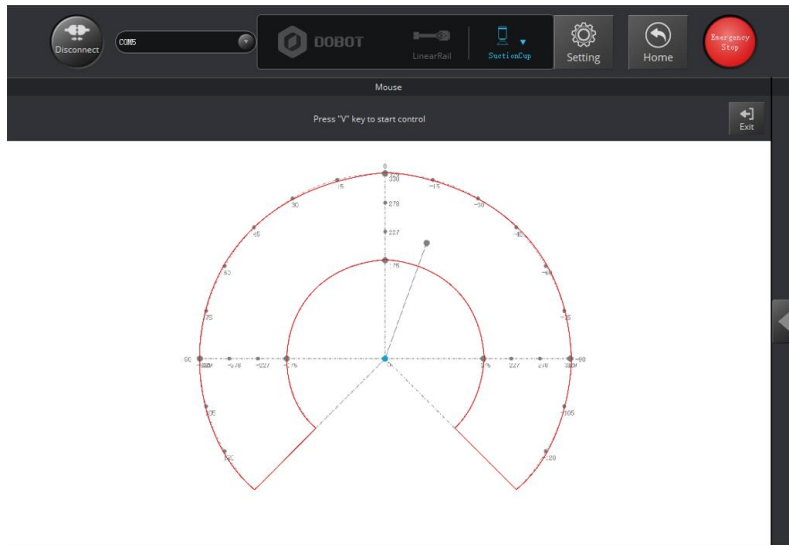

Figure 5.117 Move the robotic arm in the red annular area
- Step 2** Press **V** to enable the mouse control of the Dobot Magician. Press and hold the left mouse button to drag the mouse within the red annular area to move the robotic arm, as shown in Figure 5.117.